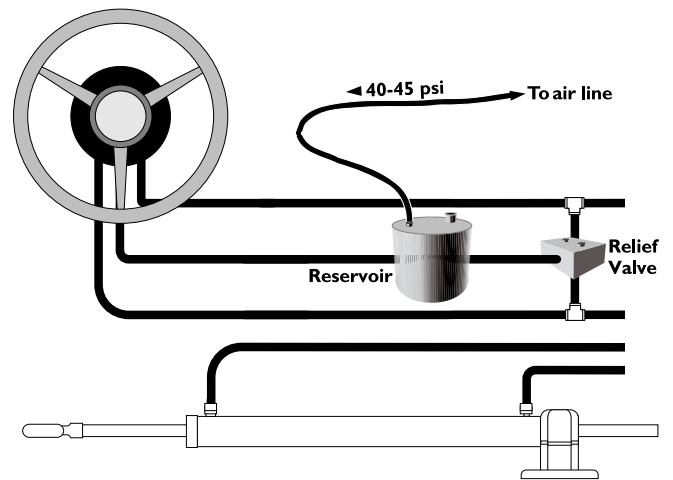
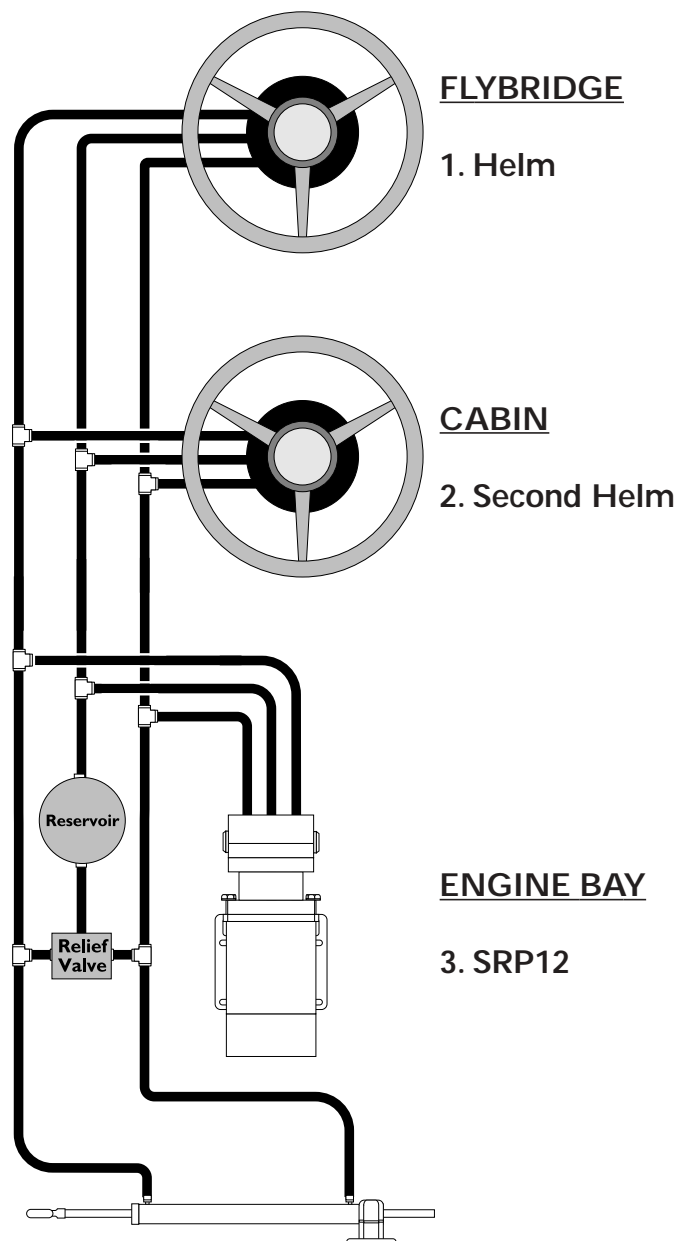

Fig 4.6 - Pressurising steering system
Fig 4.7 - Purging sequence
2. The reservoir should be fitted with an air valve of the type used on car tyres. Connect a foot pump or compressed air line to the valve and begin to pressurise the system slowly (Fig 4.6).
9. Repeat steps 6 & 7 with the Return (R) port.
11. Repeat the above step with each successive lower helm position (Fig 4.7). **This includes the SRP12 pump.**